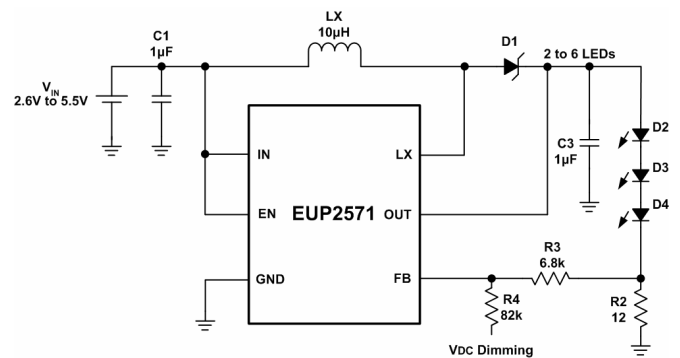

Figure 5. Dimming Control Using a DC Voltage
Using a variable DC voltage to adjust the brightness is a popular method in some applications. The dimming control using a DC voltage circuit is shown in Figure 5. According to the Superposition Theorem, as the DC voltage increases, the voltage contributed to VFB increases and the voltage drop on R2 decreases, i.e. the LED current decreases. For example, if the VDC range is from 0V to 2.8V, the selection of resistors in Figure 5 sets dimming control of LED current from 20mA to 0mA.
Figure 9 is another application of EUP2571 for backlight and keypad. Setting the divider-resistors (R1 & R2) is to get a constant output voltage that depends on the forward voltage and the numbers of series-LEDs. It can turn on backlight of main panel and keypad at the same time. Applying different duty cycle of PWM signal above 22kHz to the backlight's switch can also control the brightness of main panel's backlight. The keypad's backlight will keep the same brightness during the dimming control of main panel. Otherwise the brightness of keypad's s backlight can also change during the dimming control of main panel by using the application circuit as figure 5. The following formula (5)(6) can determine the resistors of Figure 9.